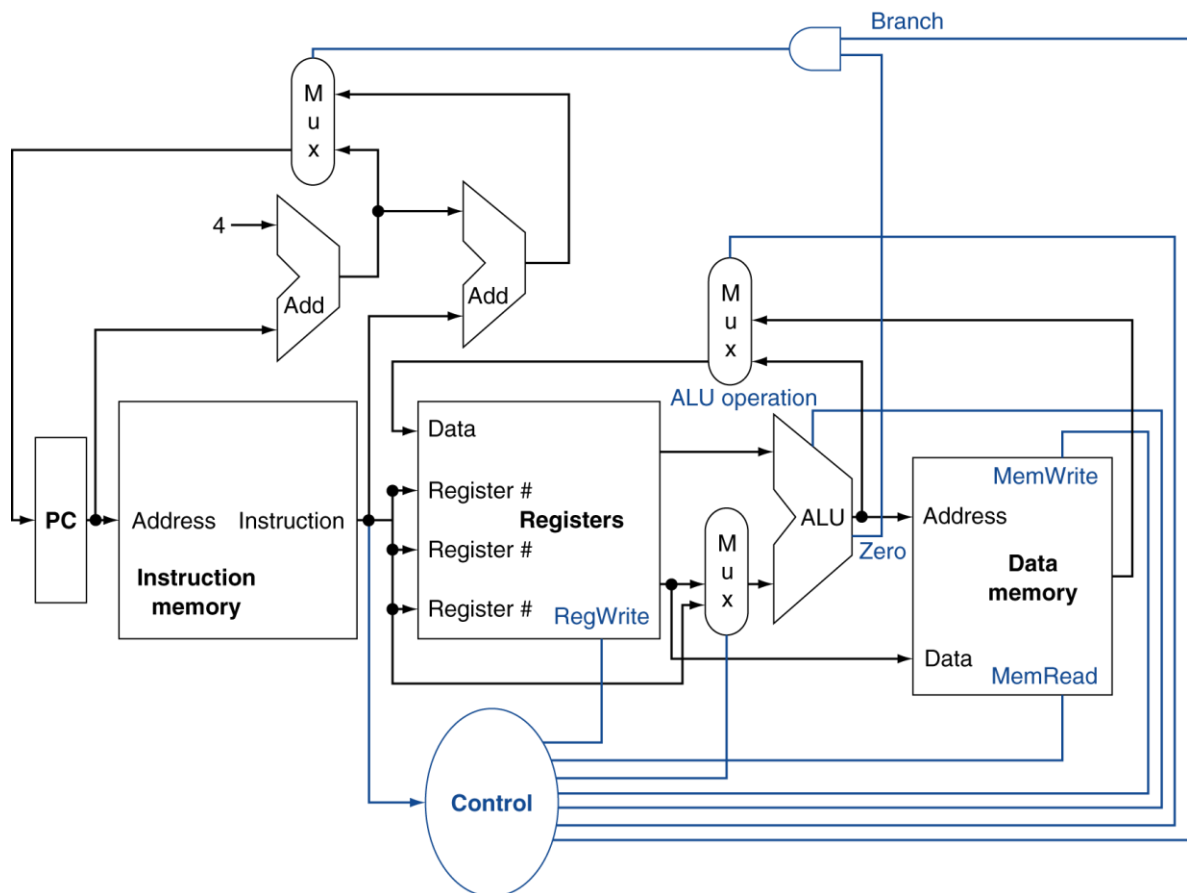

Figure 2: The basic implementation of the MIPS subset, including the necessary multiplexors and control lines.
- What are the values of control signals generated by the control in Figure 2 for this instruction?
Different execution units and blocks of digital logic have different latencies (time needed to do their work). In Figure 2 there are seven kinds of major blocks. Latencies of blocks along the critical (longest-latency) path for an instruction determine the minimum latency of that instruction. For the following three problems, assume the following resource latencies:
The basic single-cycle MIPS implementation in Figure 2 can only implement some instructions. New instructions can be added to an existing ISA, but the decision whether or not to do that depends, among other things, on the cost and complexity such an addition introduces into the processor datapath and control. The next three problems refer to this new instruction: